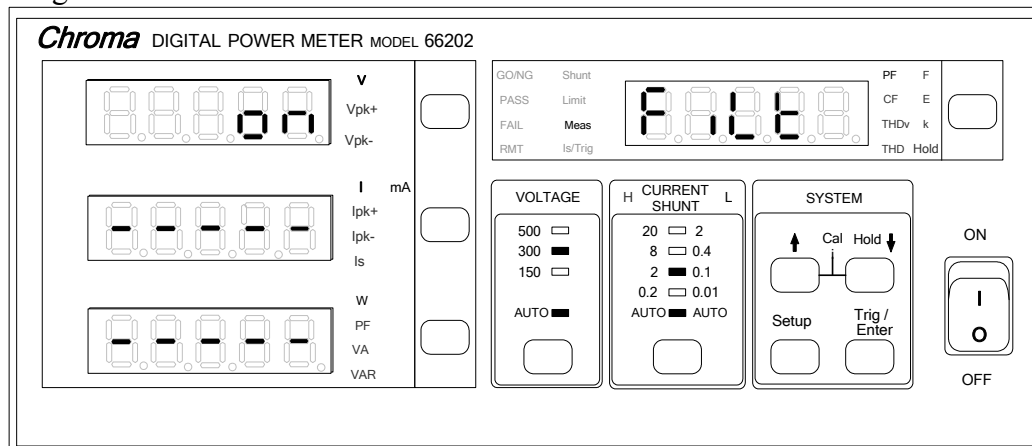

Figure 4-30 Setting Filter
1. Press **Setup** to select Meas and the indicator of Meas is on. Figure 4-30 shows the setting of Filter.